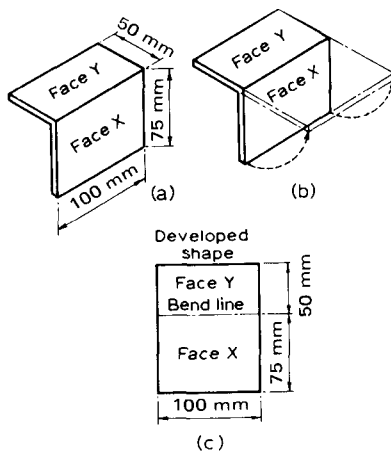

Fig. 3.160
**Sheet-metal developments.** Before making an article in sheet metal we need a pattern, which is the shape of the flat metal needed to make the article. Fig. 3.160 (a) shows an angle bracket made from sheet metal. If we bend up face X until it is in the same plane as face Y, Fig. 3.160 (b), then we have the shape of the flat metal needed to make the bracket. This shape which is drawn and dimensioned in Fig. 3.160 (c) is called the pattern or the development of the bracket.